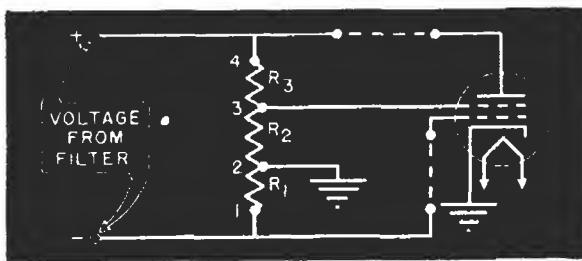
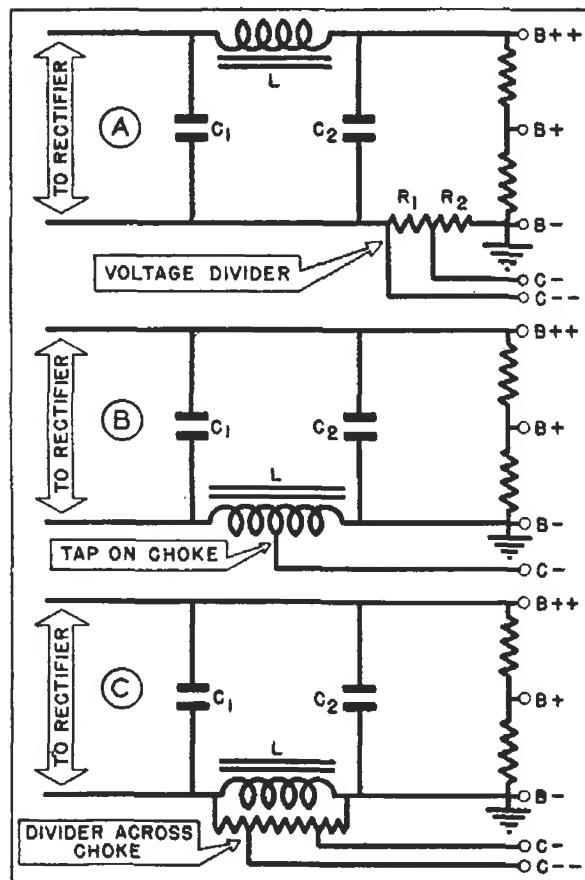

FIG. 24. A complete voltage divider.
FIG. 25. Three ways of getting bias from the power pack.
► A practical application of the voltage divider is shown in Fig. 24. Here, resistor  $R_2$  is the bleeder. Series resistor  $R_3$  provides the correct screen voltage, and the C bias voltage is produced across  $R_1$ . Notice that both point 2 on the voltage divider and the cathode of the tube are grounded. The cathode and bleeder current electrons come from the minus supply terminal and flow through  $R_1$  to point 2. Here they divide, the cathode electrons flowing through the chassis to the cathode, and the bleeder electrons continuing on through  $R_2$ .
► Fig. 25 shows three common ways of getting bias voltage from the power pack. In Fig. 25A, resistors  $R_1$  and  $R_2$  (this may be a single tapped resistor) are placed in the power supply B—lead. Their action is similar to that of  $R_1$  in Fig. 24, except that the cathode currents of all the tubes now flow through the resistors. Grids of tubes which need the full voltage for